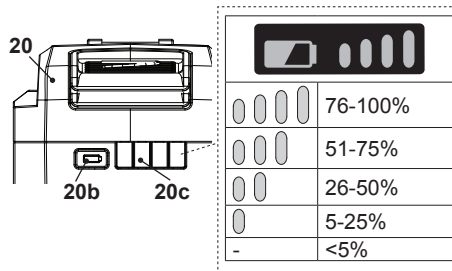

Fig. 15
The battery pack (20) is equipped with battery capacity indicators (20c) which are used to give an indication of the battery pack's remaining capacity. Press the battery capacity button (20b) to check battery capacity (Fig. 15). The LEDs will stay lit for approximately 5 seconds.